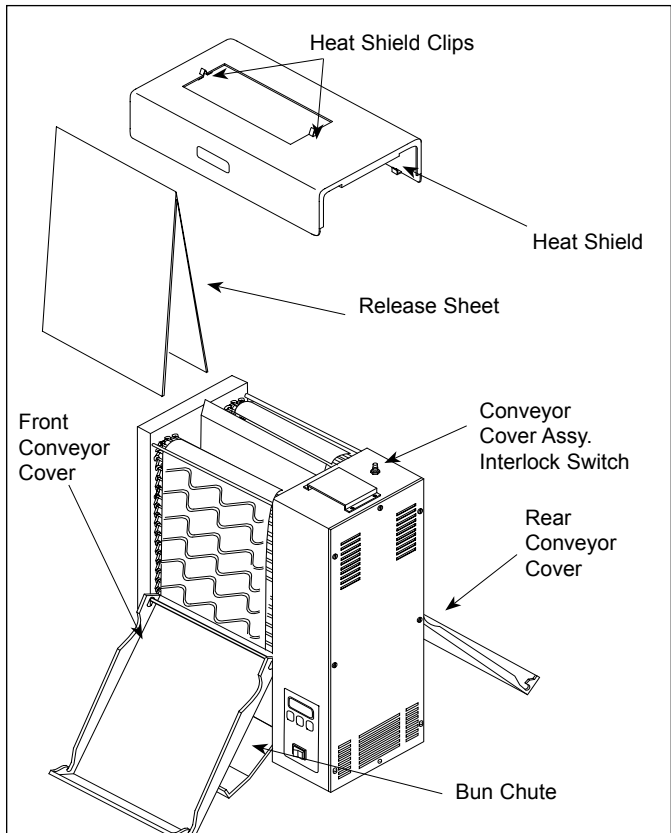

Figure 10. Components
4. Firmly wipe the exterior of both conveyor Belt Wraps with a clean, dry towel and a solution of Exceed® Multi-Surface & Glass Cleaner. Clean this solution off with a clean, dry towel dampened with a sanitizing solution. Install both covers and heat shield (Figure 10). Plug power cord into the electrical outlet and turn the Rocker Switch to ON. Count to 15. Turn the toaster off. Remove Heat Shield, open the Conveyor Covers and clean and rinse the newly exposed section of the Belt Wraps; then close the Conveyor Covers.
2. Remove the Bun Chute, Heat Shield, and Release sheet (Figure 10). Open the front and rear Conveyor Covers by lifting the covers in an upward motion and then tilting the tops away from the unit.
10. Install Bun Chute and Heat Shield (Figure 10).